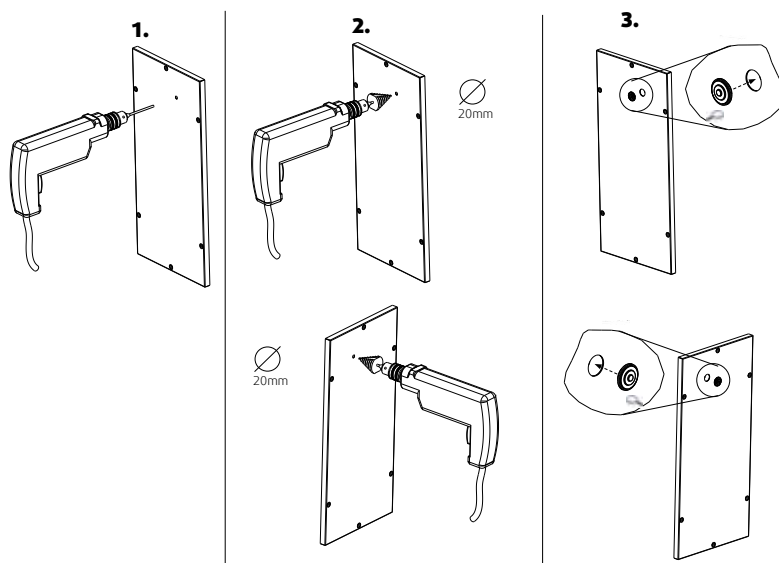

fig. 9: Cablebushing panel
- ☞ All workingsteps in the following notes and instruction figure (figure 9) have to be done on both sides of the double-walled panel.